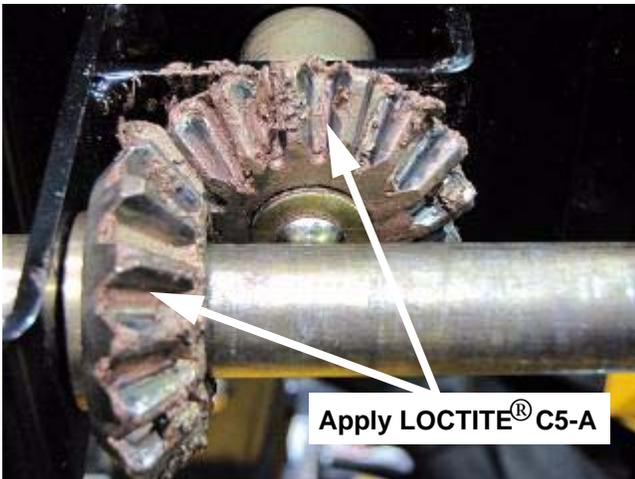

FIGURE 13
21. Apply LOCTITE[®] C5-A (copper) to the to miter gear surfaces as indicated in Figure 13.